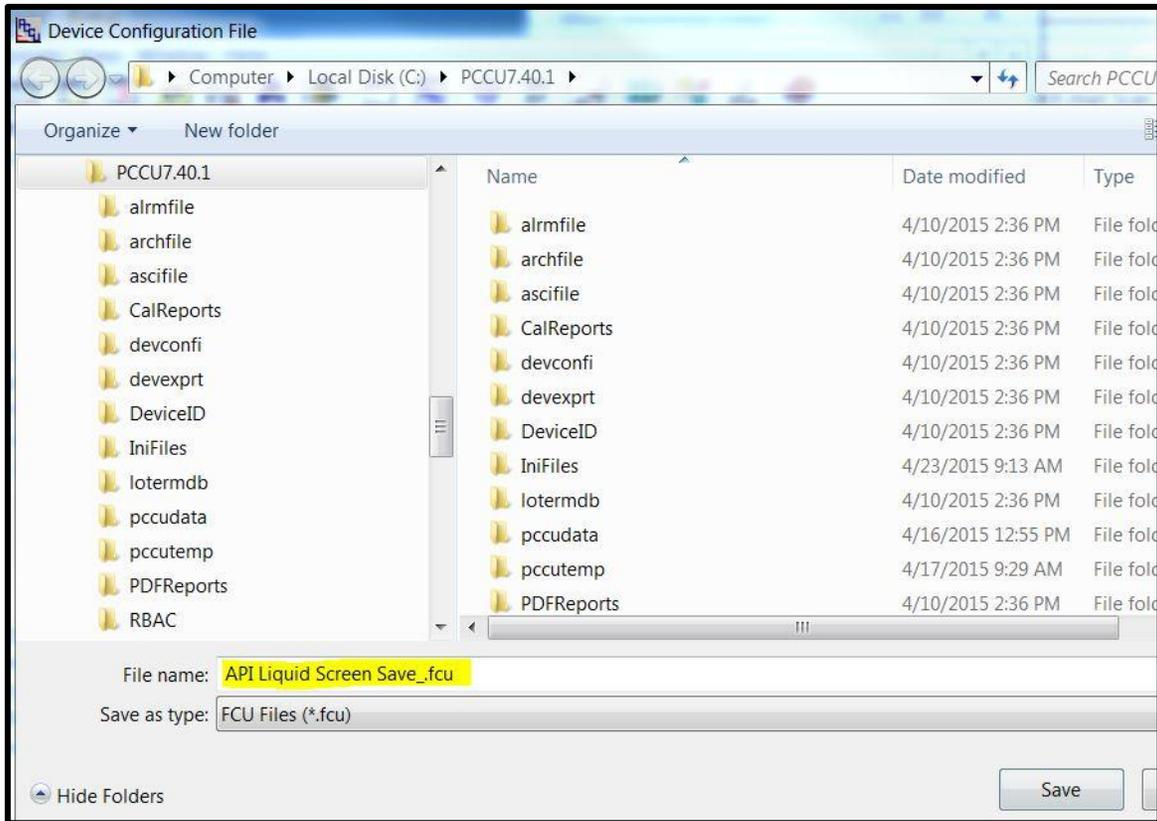

Figure 11: Device Configuration File screen
- At the Device Configuration File window, type the file name with the .fcu extension (Figure 11). The file is saved in the PCCU folder.